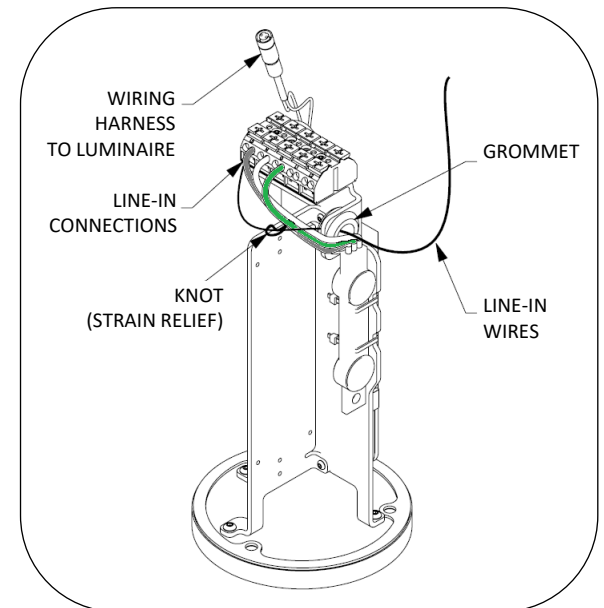

Fig. 6 – Remove driver plate assembly
5. Run wiring through grommet on the driver plate. Tie a knot with wiring after running through the grommet to act as a strain relief before connecting to terminal block. See Fig. 6.